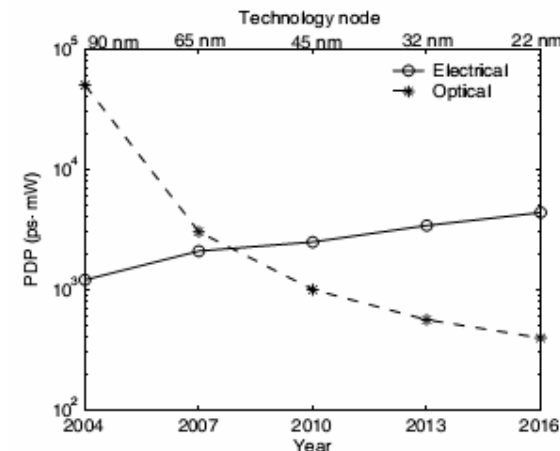

Fig.2 Power-Delay-Product (PDP) over technology node and year for 1cm length electrical and optical interconnects [2].
- Increasing power-delay product (Fig.2)